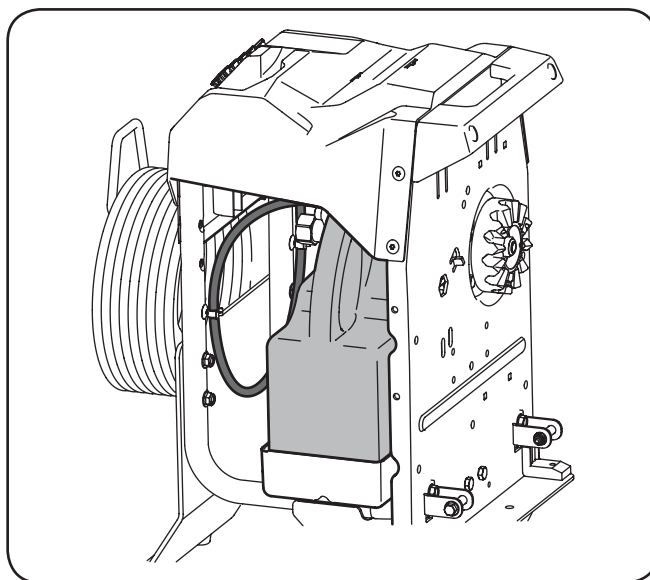

Figure 3-10
5. Install the bottle of soap into the soap holding tray and insert the soap inlet tube into the bottle as shown in Figure 3-10. Soap bottle NOT included.